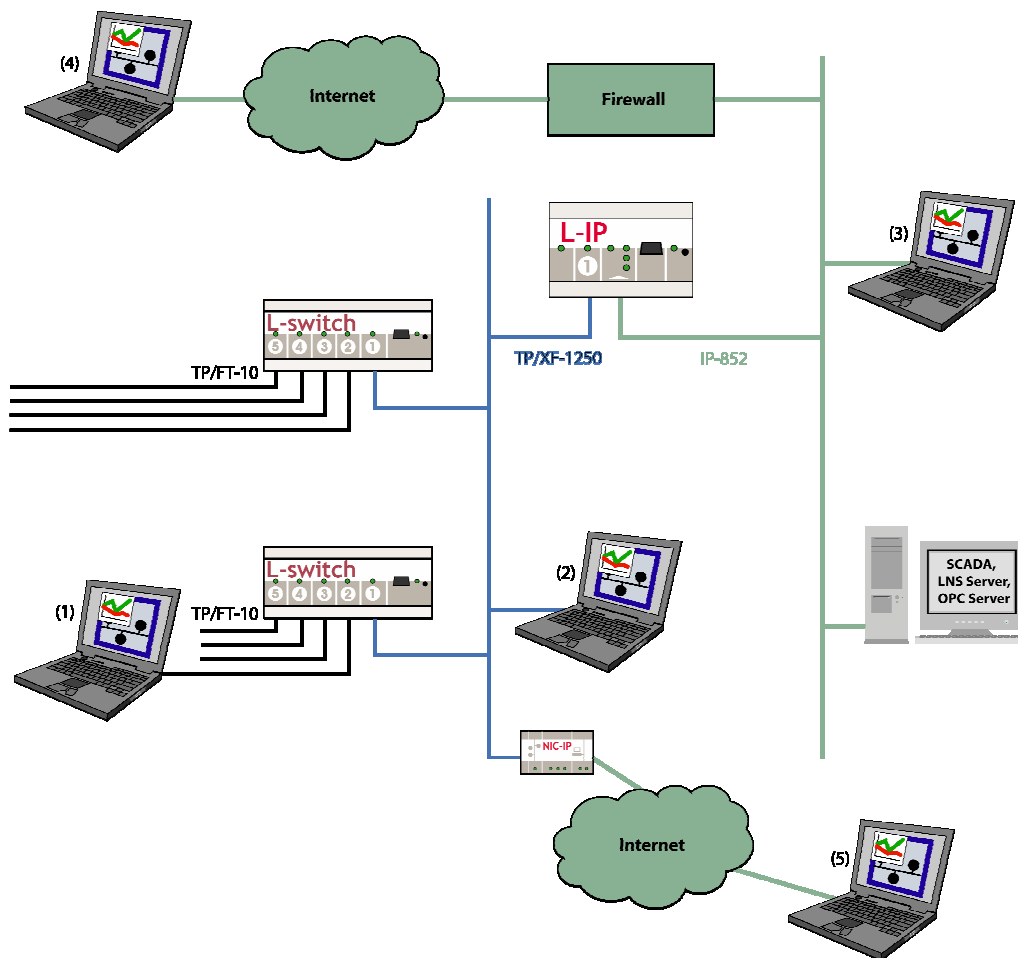

Figure 19: Local and remote access with the LSD tool.
The network infrastructure devices can be read with the LSD Tool locally or remotely (Figure 19). The LSD Tool can find all LOYTEC network infrastructure products when connected locally (1,2), via remote IP-852 connections (3,4) or with a NIC709-IP interface (5).